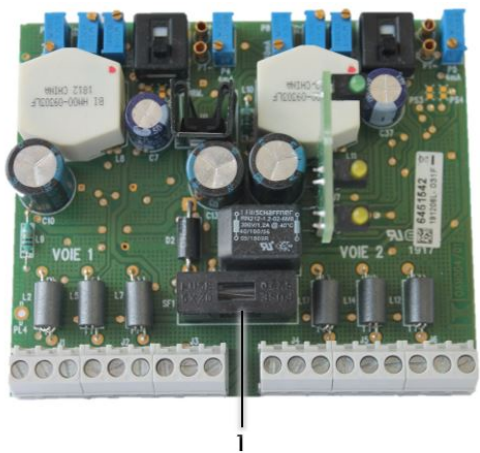

Figure 5
- change the fuse shown in Figure 5/Ref. 1,